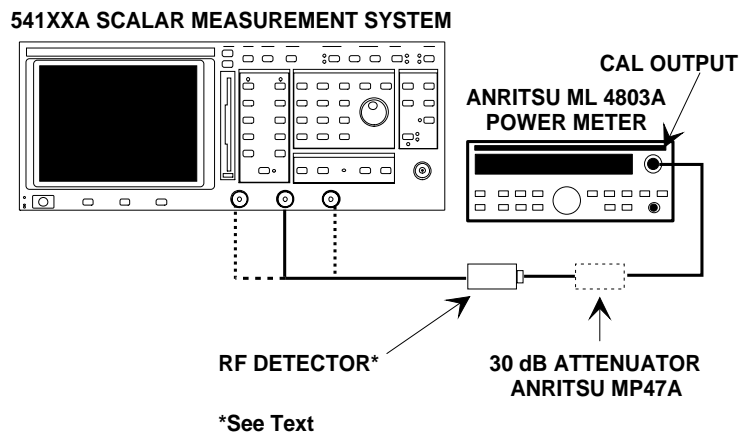

Figure 5-4. Signal Channel Verification, 50 MHz Accuracy Test Setup
- Step 1.** Set up the equipment as shown in Figure 5-4, and turn the equipment on.